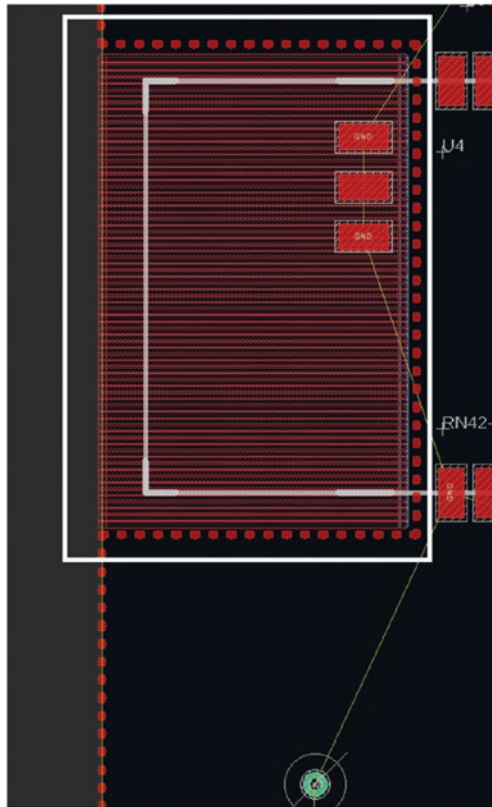

Figure 7-19. Route the ground plane around the keepout zones
4. Now select the “Polygon” function again, and start to make the top GND plane, but once you get to the keepout zone, go around it. See Figure 7-19.